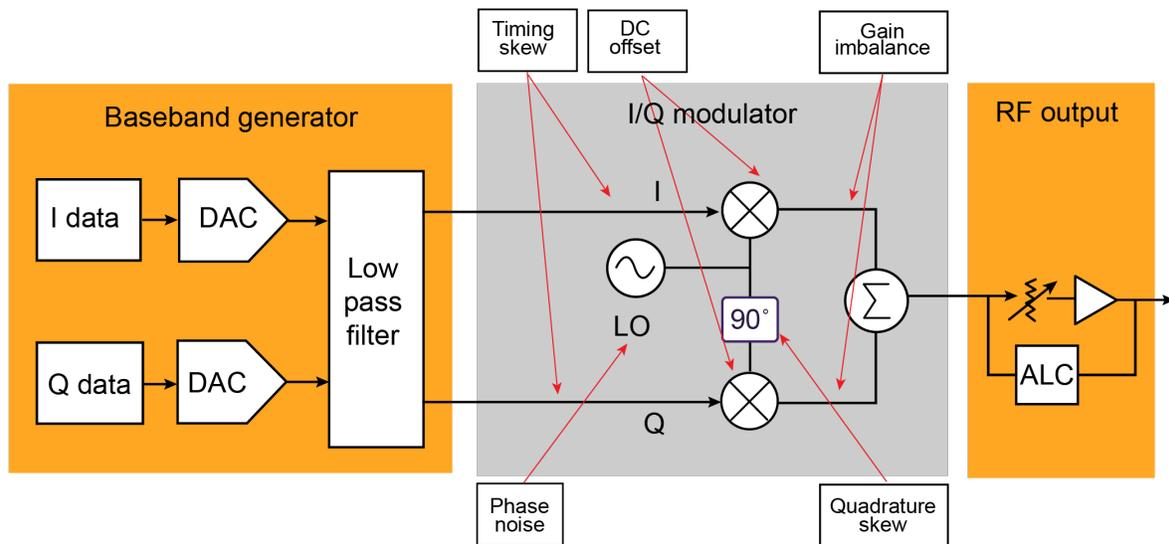

Figure 6. A block diagram of an I/Q modulator and possible errors
The I (in-phase) and Q (quadrature) signals from the baseband generator's output travel to the I/Q modulator and upconvert to an intermediate frequency (IF) and RF signal. Before combining the I and Q signals, the I and Q signals mix with a same local oscillator (LO) and insert a 90-degree phase shifter in one of the LO paths, as shown in Figure 6. Each component in the I/Q modulator contributes a certain kind of error, resulting in final modulation quality.